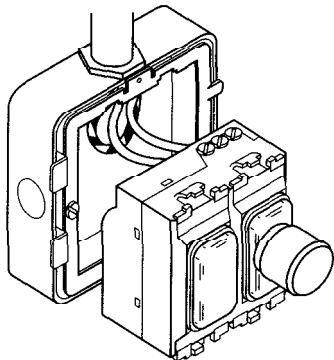

Fig. 1 Typical Mounting Arrangement
- Carefully push the wired Dimmer into the Grid Mounting Frame, until the latches have fully engaged and the Module is secure (as shown in Fig. 1). Ensure cables are not trapped or pinched.